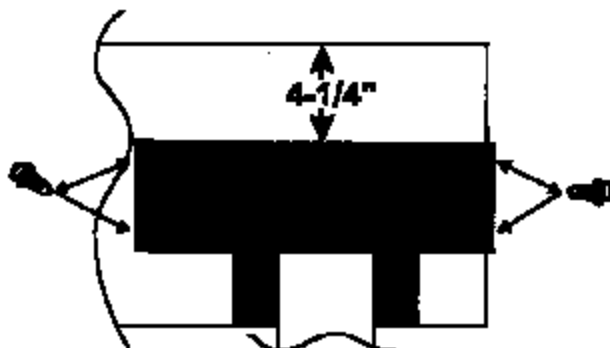

Fig. 5
7. Place the heat shield at the dimensions shown. (Fig. 5)
8. With the use of three (3) self-drilling screws attach the heat shield to the top of the muffler shield. (Fig. 5)